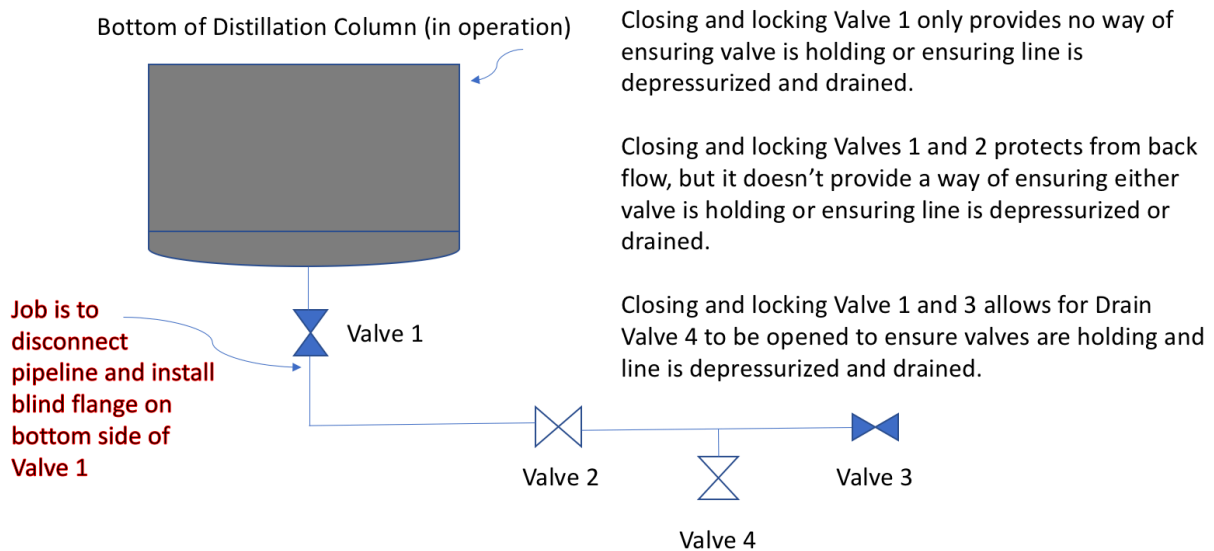

Figure 4 – Revised Lockout Boundary to Include Method of Draining Pipeline
- For line disconnections where no drain is present and this is the only valve isolating a high-risk chemical, determine if an additional valve(s) can be locked out. See Figure 4.